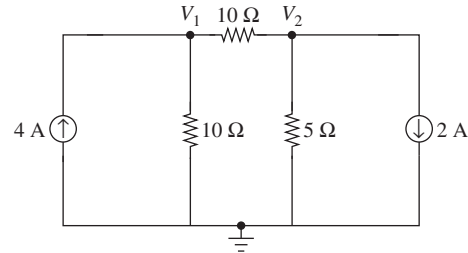

Figure P7.6 Two-node circuit for problem P7-6.
- 7-6.** Consider the two-node circuit shown in Fig. P7.6. The voltages V_1 and V_2 (in volts) satisfy the following system of equations: